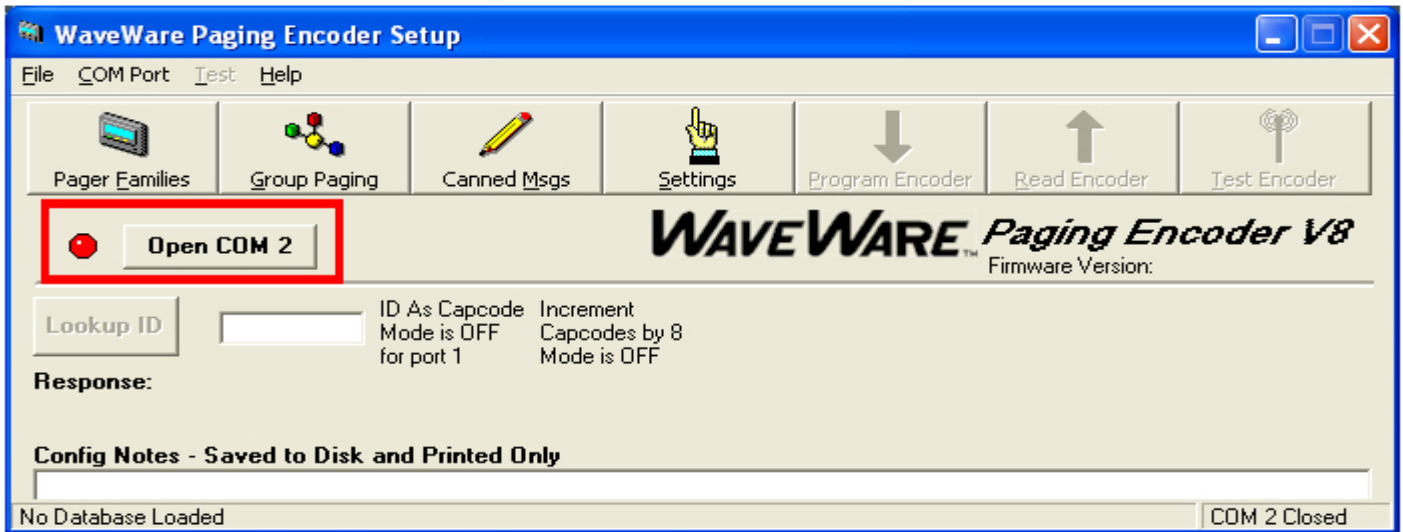

Fig. 3 (Open the Com Port, Part 1)
On the Main Screen of Encoder Setup Program, Click on the “Open Com (X)” Button next to the **RED** Light. Below See Fig. 3